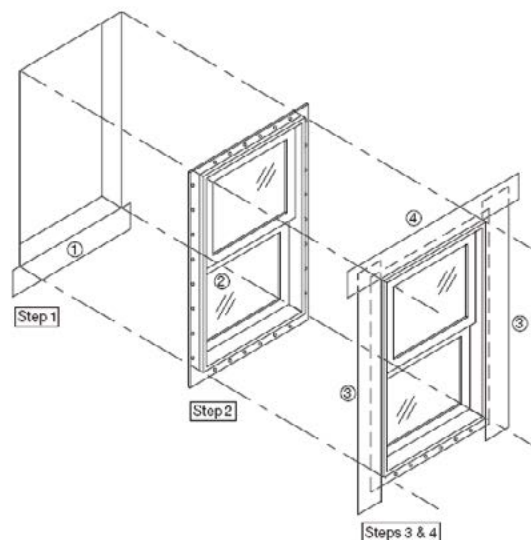

Figure 1: Window installation detail for windows with integral flanges and flashing installed prior to WRB
**1. SILL FLASHING** - Flash the bottom of the sill by cutting the flashing the width of the rough opening plus 2 times the flashing width (as shown in figure 1). Partially remove the release liner so that the release liner remains in place on the lower 2" of the flashing. Center the flashing horizontally relative to the rough opening. Align the edge of the flashing with the adhesive exposed with the bottom of the rough window opening and firmly press the flashing into place. Tape the lower edge of the flashing to prevent wind damage until WRB installation. Do not adhere the bottom 2" of the flashing at this time (See step 5 below).